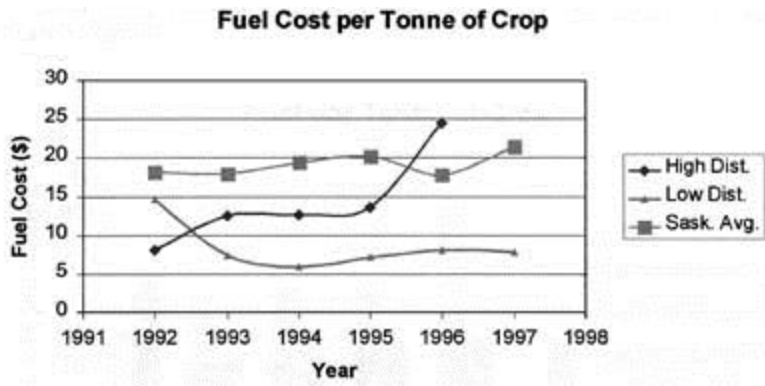

Figure 2. Fuel Cost per Tonne of Crop.
**Figure 2** shows the fuel cost per tonne of crop produced. Again the clear advantage is toward the LDS system. In fact the HDS system appears to have nearly double the fuel cost per tonne of crop produced of the LDS system. Survey researchers suggest that even with the limited data obtained in this study, there is a large enough difference to conclude that LDS, as practiced by the survey participants, can be used as a method to reduce fuel costs compared to HDS conventional seeding practices.